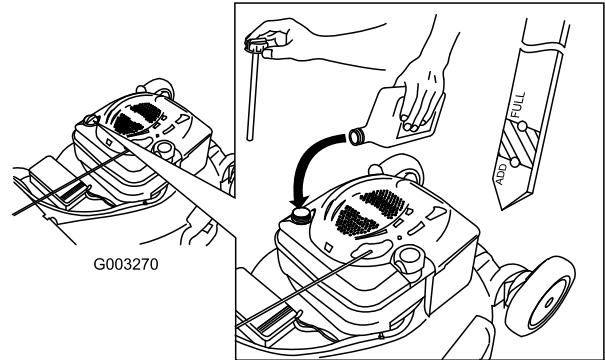

Figure 10
1. Remove the dipstick, wipe it clean, and fully install the dipstick (Figure 10).
2. Remove the dipstick and check the oil level (Figure 10). If the oil level is below the Add mark on the dipstick, **slowly** pour oil into the oil fill tube to raise the oil level to the Full mark on the dipstick. **Do not overfill.** (Max. fill: 20 oz. (0.59 l), type: SAE 30W detergent oil with an API service classification of SF, SG, SH, SJ, SL, or higher.)